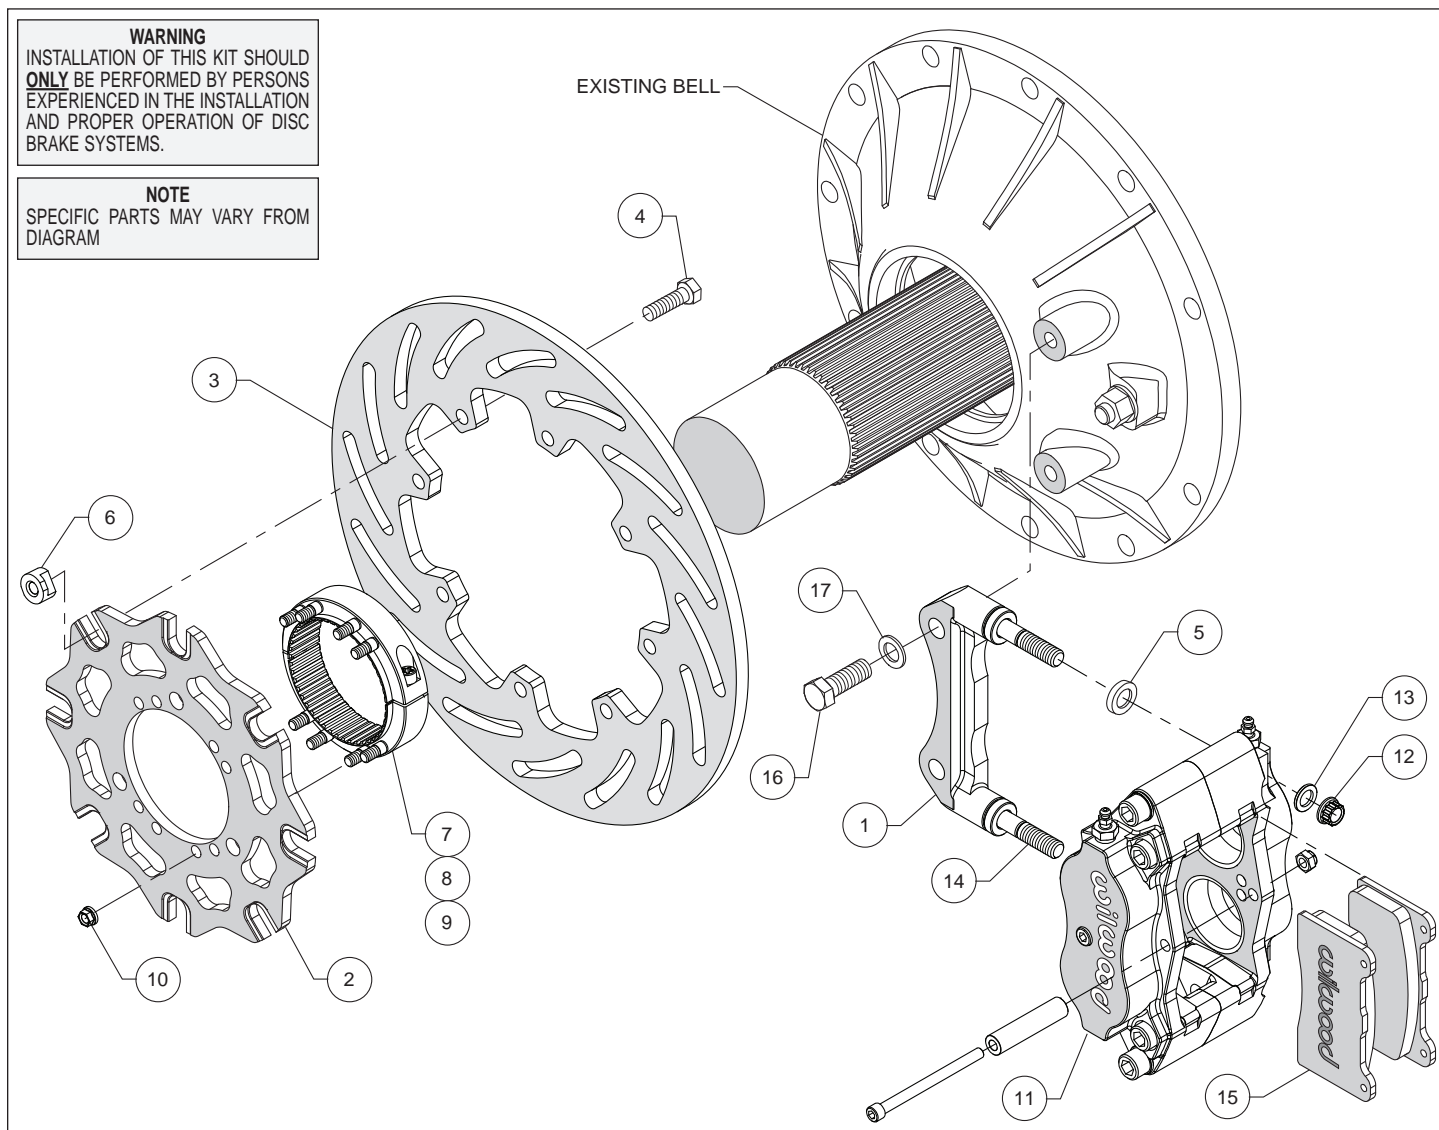

Figure 1. Typical Installation Configuration
**Assembly Instructions** (numbers in parenthesis refer to the parts list, and Figure 1 on the preceding pages): **CAUTION:** All mounting bolts must fully engage threaded holes.
- Orient the caliper mount bracket (1) as shown in Figure 1 and install using bolts (16) and washers (17). Temporarily tighten the mounting bolts. **NOTE:** The bracket must fit squarely against the mount bosses on the bell. Inspect for interference from casting irregularities, machining ridges, burrs, etc. Remove the bracket mounting bolts one at a time, apply red *Loctite*® 271 to the threads, and torque to 60 ft-lb.
- Orient the rotor adapter (2) and the rotor (3), as shown in Figure 1, and attach using bolts (4), and t-nuts (6), Figure 1. Apply red *Loctite*® 271 to the bolt threads before installing. Finger tighten. After all t-nuts have been installed, torque bolts in an alternating sequence to 220 in-lbs. Please refer to Wilwood's data sheet DS-669 (available at [www.wilwood.com/Pdf/DataSheets/ds669.pdf](http://www.wilwood.com/Pdf/DataSheets/ds669.pdf)) for complete t-nut bolt kit installation instructions. **NOTE:** Rotor adapter may be fix mounted to rotor (instead of floating mount) using customer supplied hardware.
- Orient the axle clamp assembly (7, 8 and 9, pre-assembled) as shown in Figure 1 and install onto the rotor adapter (2) using nuts (10). Tighten nuts part way while still allowing clamp-to-adapter movement. The nuts will be torqued later, after aligning the rotor.
- Lubricate the caliper mounting studs (14) with lightweight oil. Place one spacer (5) on each stud as shown in Figure 1. Mount the caliper (11) onto the bracket (1) using lock nuts (12) and washers (13), Figure 1. Temporarily tighten the lock nuts and view the rotor through the top opening of the caliper. The rotor should be centered in the caliper. If not, slide the rotor/adapter assembly on the axle until the rotor is centered in the caliper. Tighten the clamp bolts (9) first, locking the clamp to the axle. Torque nuts (10) to 140 in-lbs. Torque the caliper lock nuts (12) to 30 ft-lb.
- Remove the caliper center bridge pad retainer bolt, nut, and tube from the caliper. Insert the brake pads (15) into the caliper, with the friction material facing the rotor. Secure the brake pads in place with the center bridge pad retainer tube, bolt, and locknut. The locknut should be snug without play in the bolt or tube. Be cautious not to over tighten.